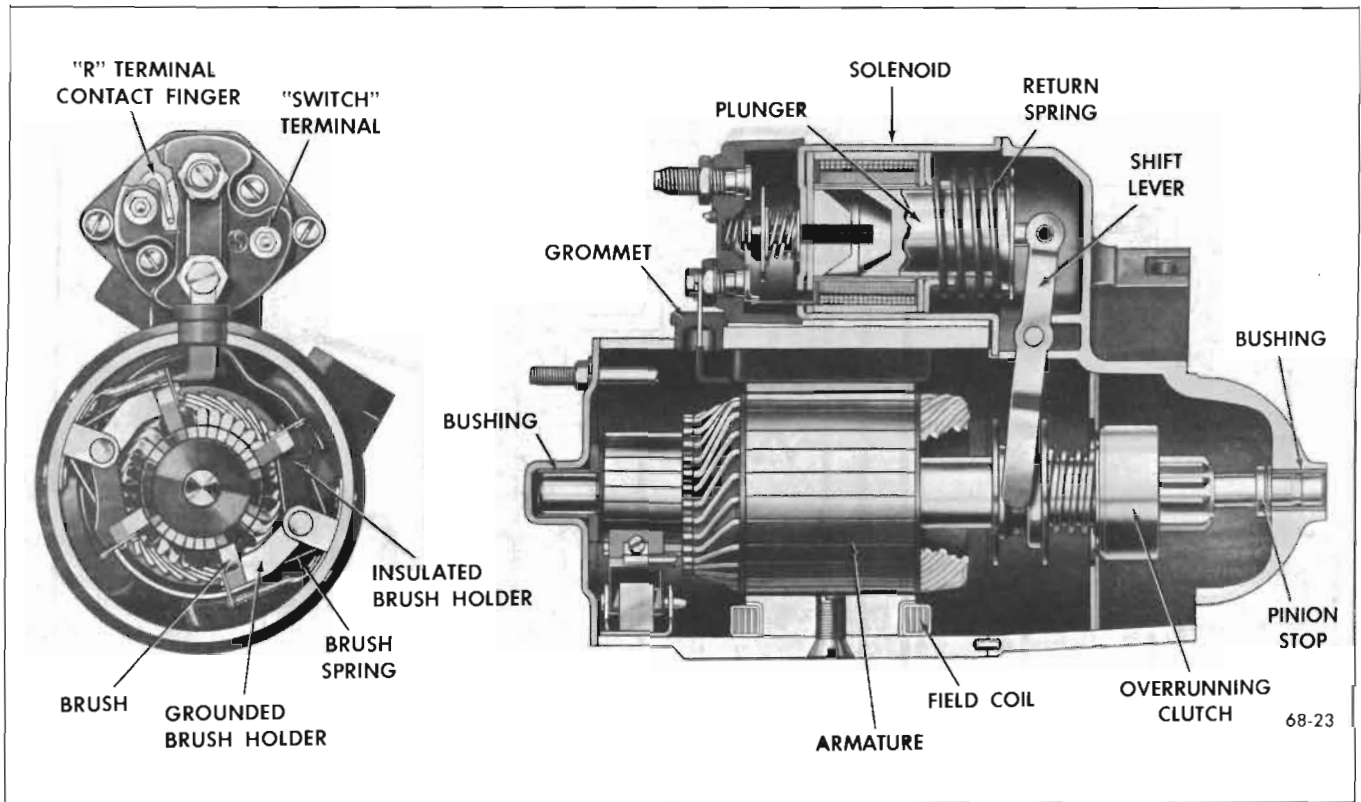

Figure 68-23—Starting Motor - Small Engines
The cranking motor assembly consists of a motor, drive assembly, shift lever, and solenoid switch. See Figure 68-23 or 24.
The armature shaft is supported at both ends in graphite bronze bushings pressed into the commutator end frame and the drive housing. Neither of these bearings require lubrication except during assembly. See Figure 68-23 or 24.
The drive assembly pinion is moved into engagement with flywheel ring gear by action of the solenoid upon the shift lever, which engages the shift collar of drive assembly. The shift collar moves the drive assembly by pushing on the clutch spring, which serves as a cushion in case the pinion and gear teeth butt instead of meshing. The helical splines assist in obtaining proper pinion engagement. The drive pinion is pulled out of engagement, after engine starts, by action of the shift lever return spring. The shift lever is connected to the solenoid switch plunger by a roll pin. See Figure 68-23 or 24.
engine starts. One stationary contact is connected to the battery positive cable and the other is connected to the motor windings through a connector or bus bar. See Figure 68-23 or 24.
3. Connect voltmeter positive (+) lead to the motor terminal on solenoid switch; connect voltmeter negative (-) lead to ground on starter. See Figure 68-23 or 24.